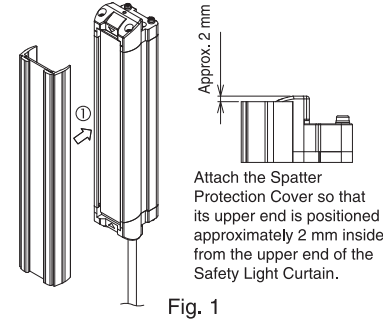

Fig. 1
- Attach the Spatter Protection Cover to the Safety Light Curtain. (Fig. 1 ①)